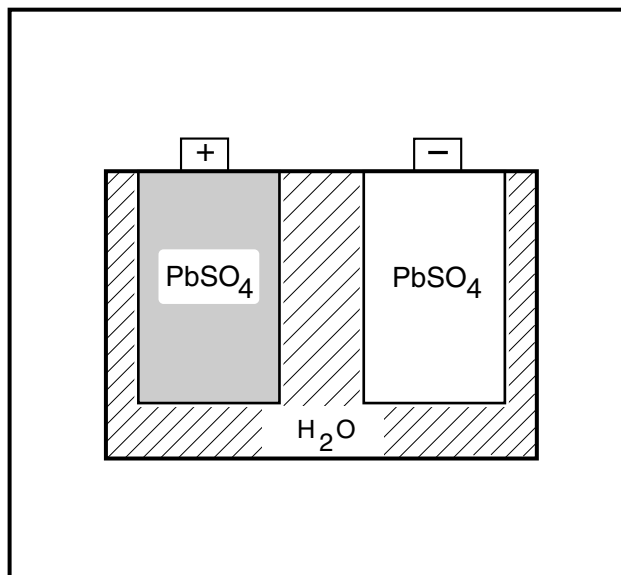

Figure 13-3 Discharged Battery
The sulfate (SO4) combines with the lead (Pb) on both plates, forming lead sulfate (PbSO4). Oxygen (O2) from the positive plates combines with hydrogen (H) from the electrolyte to form water (H2O) (**Figure 13-3, Page 13-2**).